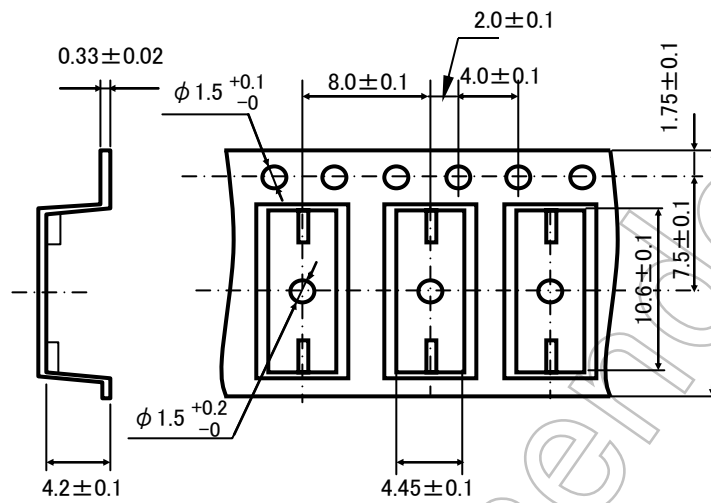

Figure 2 Tape Forms
- (1)Tape material: Plastic
- (2)Dimensions: The tape dimensions are as shown in Figure 2.